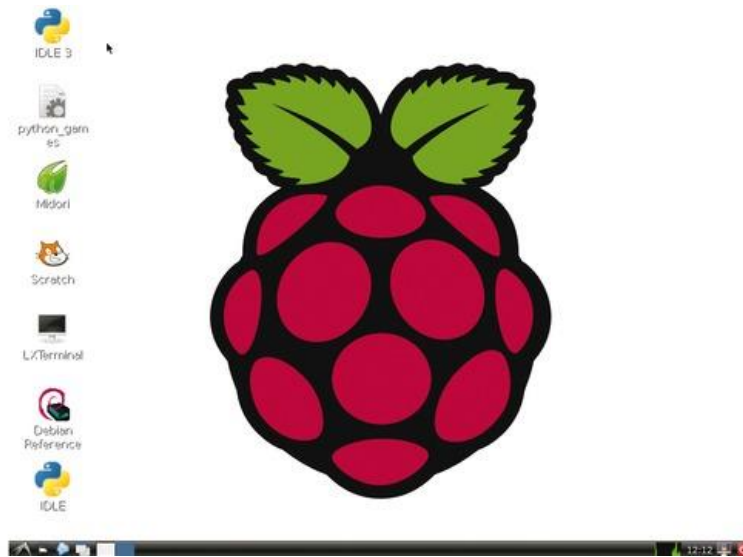

Figure-1.7 Screenshot of Raspberry Pi with Raspbian OS in it
- 1) Next plugin the SD card into Raspberry Pi and power up Raspberry Pi (note that minimum current rating for power supply is 700mA). After booting up the Raspberry Pi the screen should look like in figure-1.7. For changing any settings use the command “*sudo raspi-config*”.